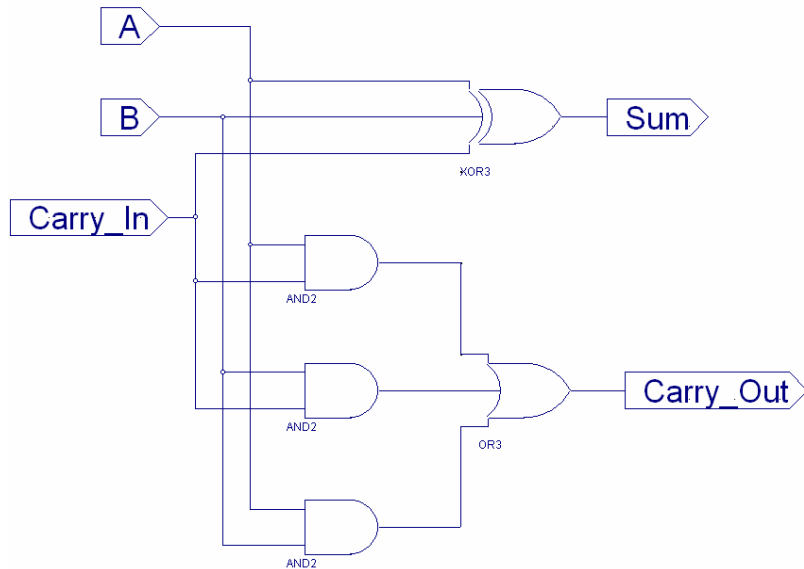

Figure 3: Logic Diagram of a Half Adder
17. Using the Boolean equations for a Full Adder, and *assign* statements, generate the output Sum and Carry signals for the *FullAdd* module (for help, refer to Lab Guide, Verilog Chapter, Section 3.2). The logic diagram for a Full Adder is given in Figure 3 for reference. Save and Close the file.